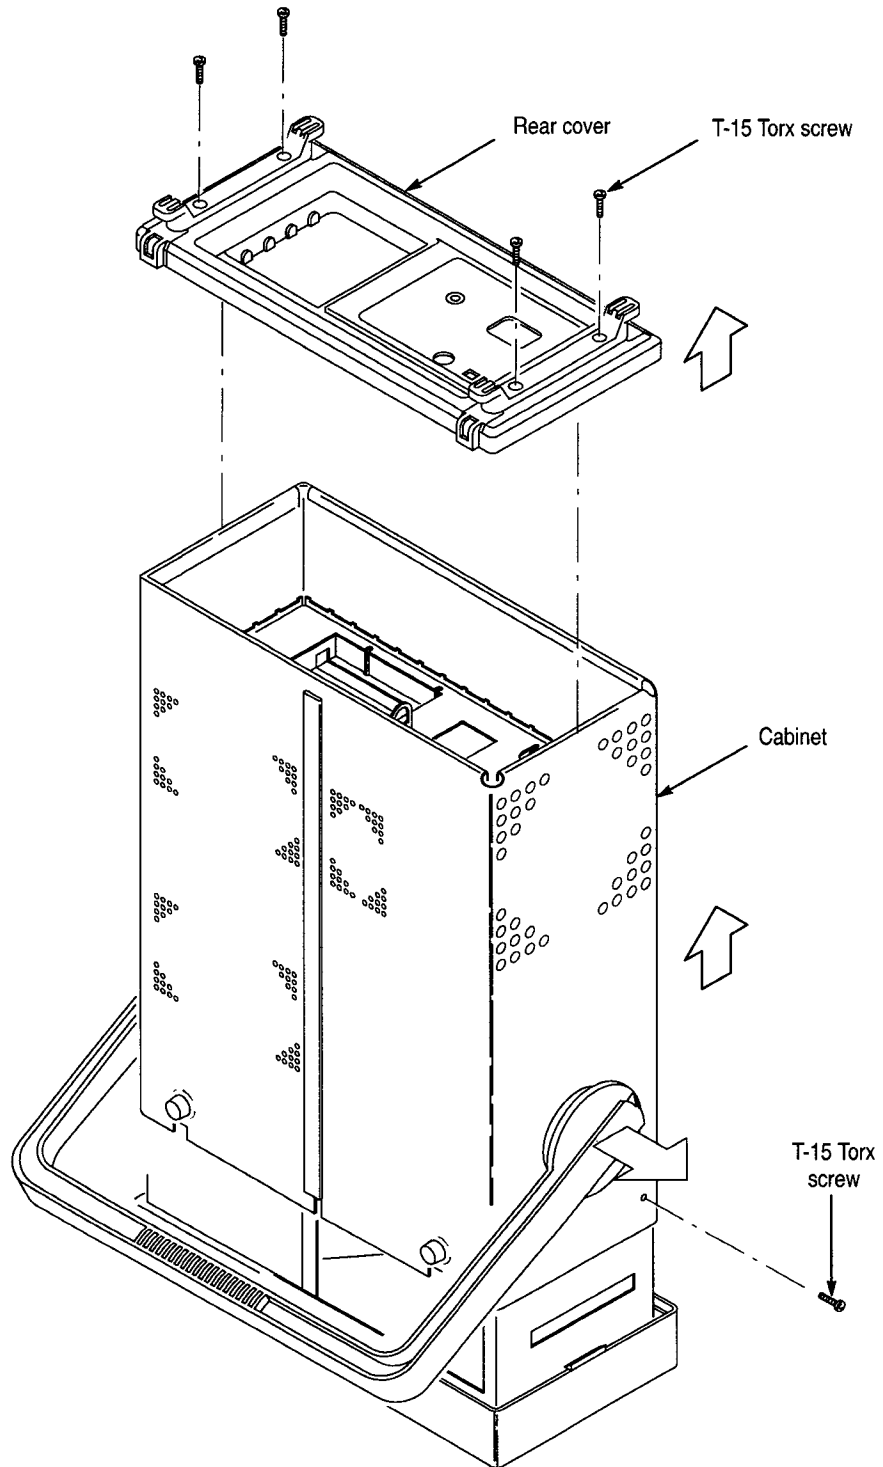

Figure 4: Oscilloscope rear panel and cabinet removal
1. Install the front cover. Set the oscilloscope face down with the front cover on the work surface and the bottom facing up (see Figure 4).